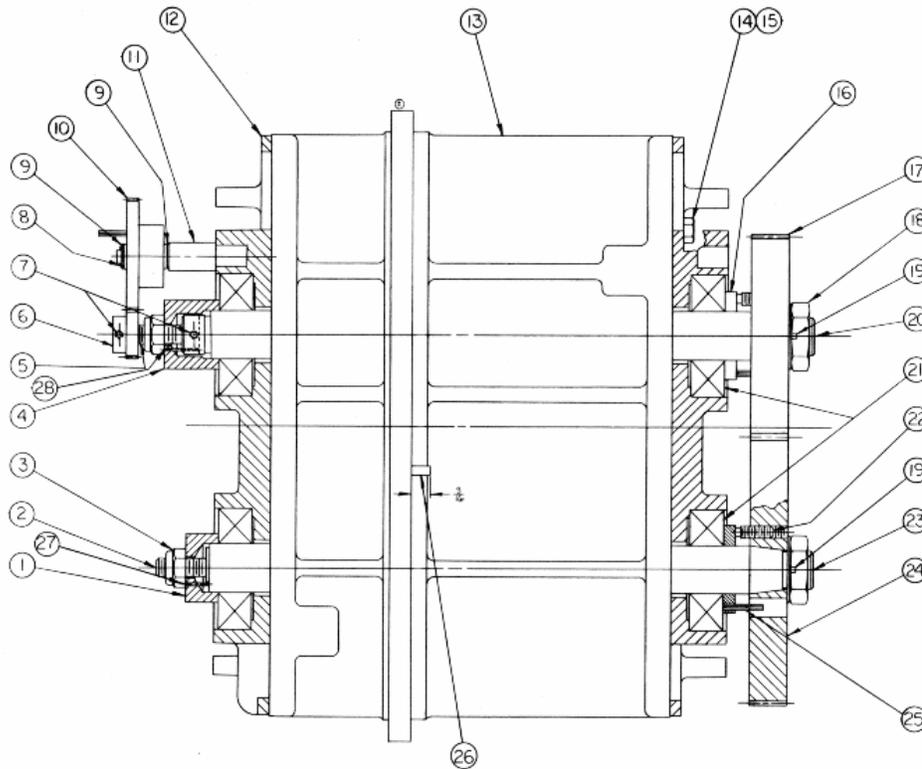

Figure 6-2 Complete Measuring Unit Assembly
1. Lower the assembled measuring unit onto the outlet housing (item 13) and lightly oil the O-Ring (item 11).
2. Position O-Ring (item 11) and inlet housing (item 1) into place and secure with screws and nuts (items 9 & 12).
3. Rotate the coupling tube on the pinion shaft assembly of the counter base plate assembly (item 4) until the drive pin is positioned the same as the slot of the coupling jaw on the driven gear (item 10, Figure 6-2).